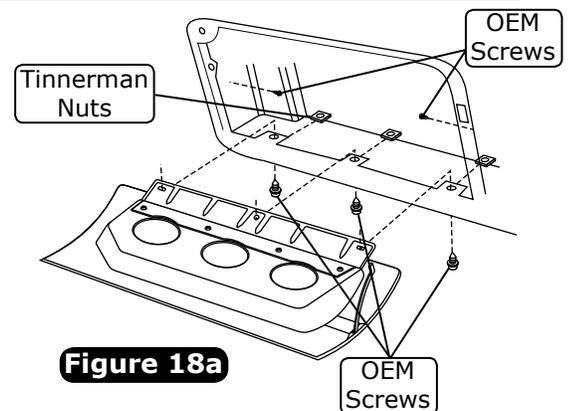

Figure 18a
3. Reinstall the glove box door using (3) OEM screws through the Tinnerman nuts (See Figure 18a, below).
4. Secure the glove box using (2) OEM screws (See Figure 18a, below).